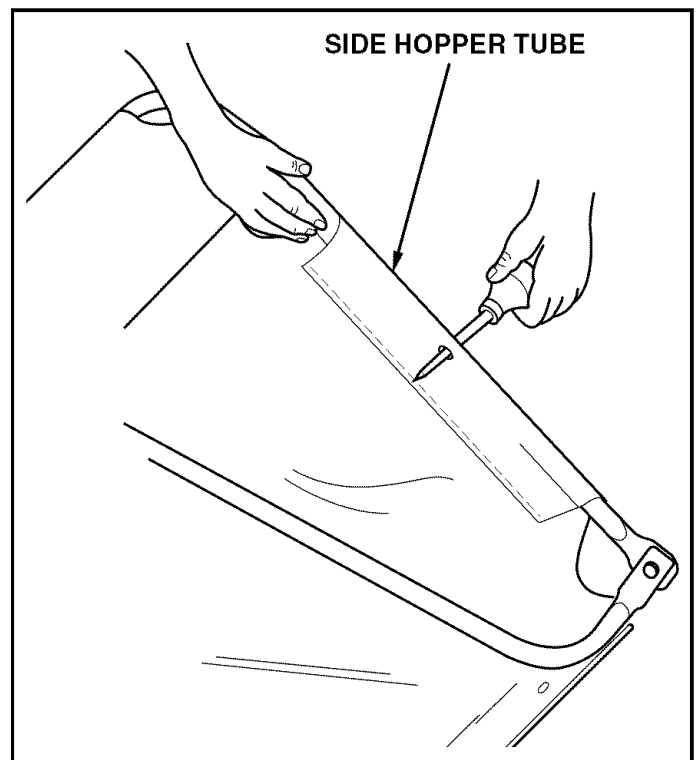

FIGURE 15
- Locate the hole in each side hopper tube and pierce a hole through the hopper bag aligned with the hole in each side tube. See figure 15.